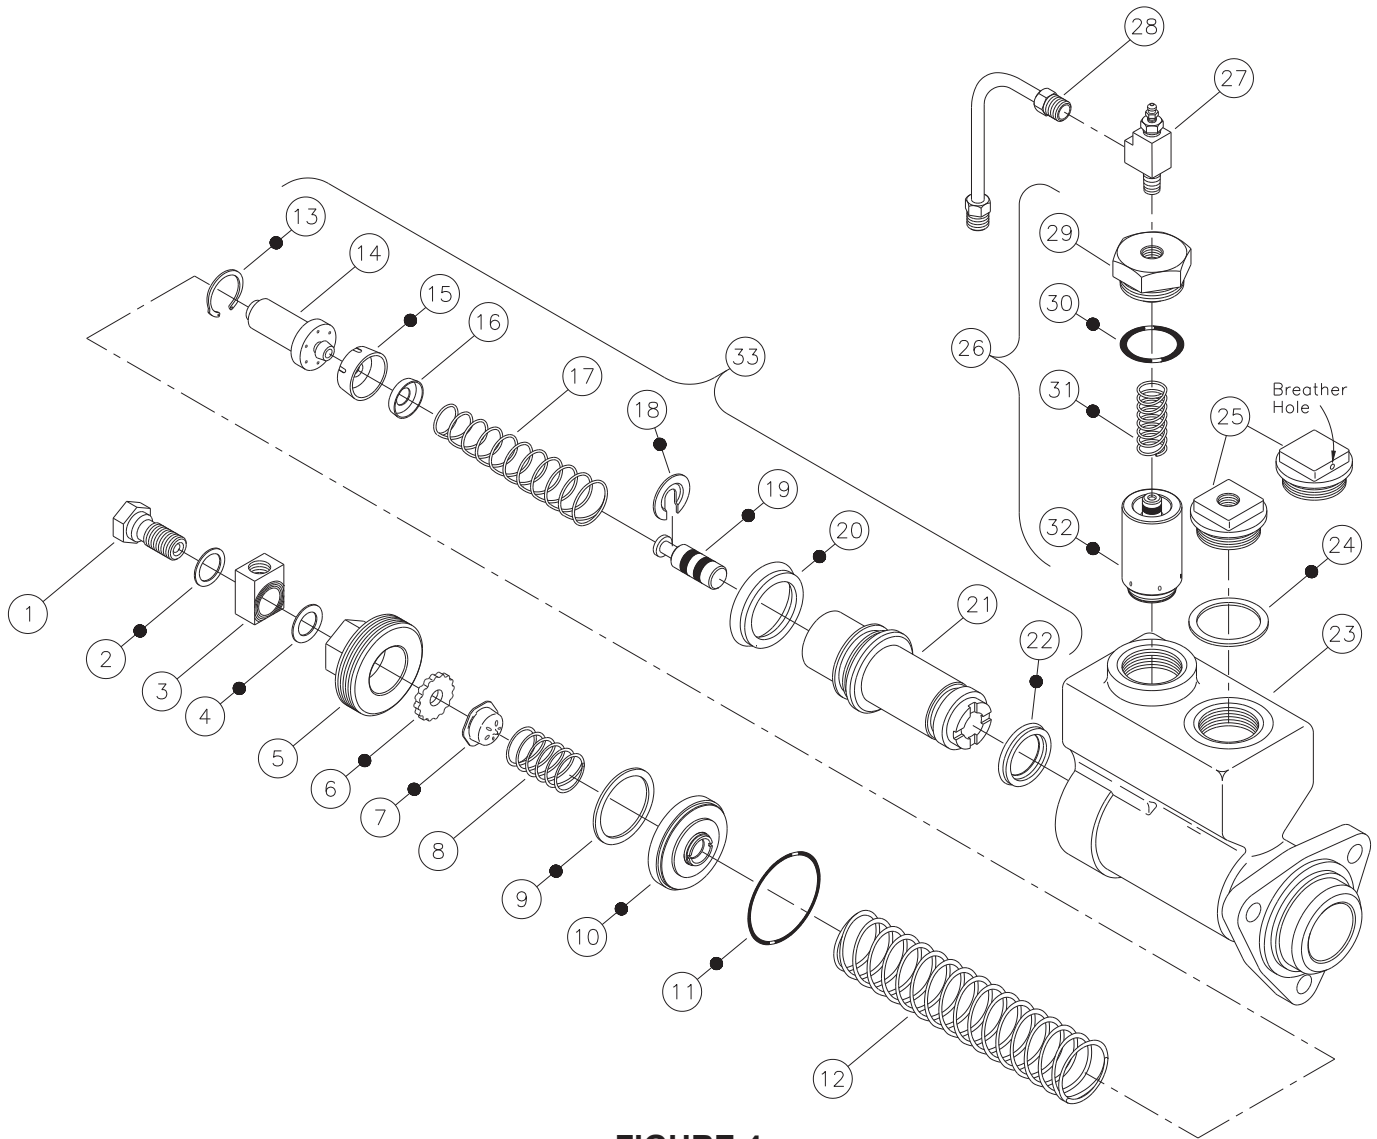

FIGURE 4
2. Install new slotted retainer (18) on new piston assembly (19) and gently insert into piston (21). Note direction of retainer (18).
3. Install new retainer (16) on end of spring (17). Install spring (17), large end first, into piston (21). **NOTE: Retainer (16) removed from your master cylinder may appear different than retainer (16) shown in Figure 4, replace with the new retainer provided in repair kit.**
4. Install new cup (15) on piston (14).
5. Insert piston (14) into piston (21) with cup (15) against retainer (16). Depress piston (14) and install new retaining ring (13).
6. Install new cup (20) and new cup (22) on piston (21).
7. Install piston assembly (33) into housing (23). Note direction of piston assembly.
8. Install spring (12) over piston assembly (33).
9. Install new o-ring (11) in housing (23). Install new seal (9) on new retainer assembly (10) and install retainer assembly (10) into housing (23). Note direction of retainer assembly (10).
10. Assemble new seat (6), new check valve (7), and spring (8) between retainer assembly (10) and end plug (5). **NOTE: Not all master cylinders use seat (6), check valve (7), or spring (8).**
11. Install end plug (5) in housing (23) and tighten end plug plug (5) using a large box end wrench to approximately 67.8-108.5 N·m (50-80 lb·ft).
12. Install new piston and body assembly (32) in housing (23).